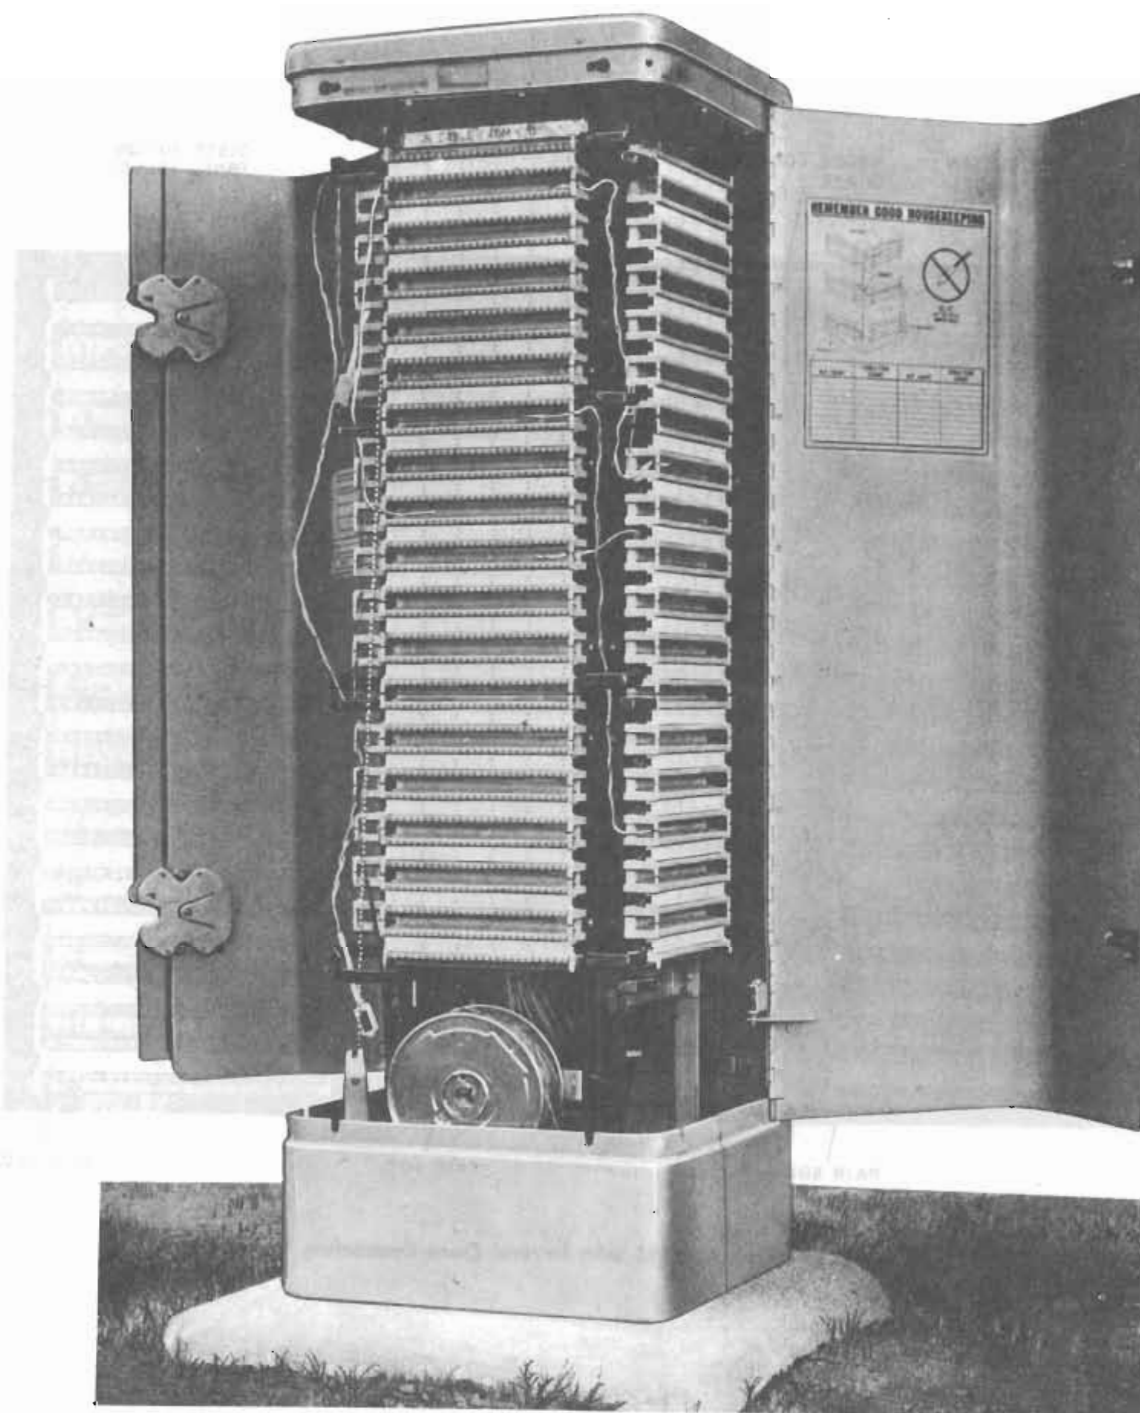

Fig. 9—Serving Area Interface AT-8630 with Several Cross-Connecting Wire Runs
- 3.06 An interface with several cross-connecting wires installed is shown in Fig. 9 and 10.